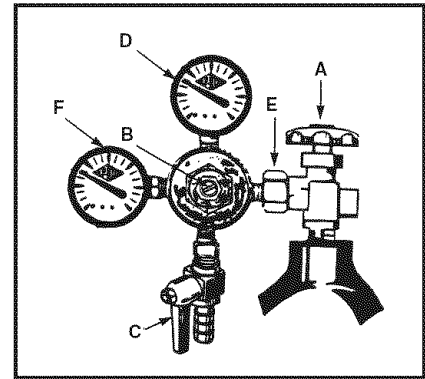

Fig. 12
19. Adjusting the CO₂ Regulator: There are two pressure gauges on the CO₂ regulator. **See Fig. 12** The upper gauge #1 monitors "LOW" (internal keg) pressure and must be adjusted to the correct operating pressure of 10~12psi/lbs. The lower gauge #2 monitors "HIGH" (CO₂ cylinder) pressure and is not adjustable. The high pressure gauge also acts as a fuel gauge to let you know when the CO₂ cylinder needs re-filling.
1. Close the main cylinder valve (A) by turning in a clockwise direction. **See Fig.12**
2. Close the secondary shut-off valve (C) by turning to "horizontal" (east/west) position on lower stem pipe. **See Fig.12**
4. Remove the regulator assembly (E) from empty cylinder. **See Fig.12**
6. Re-attach regulator assembly (E) to new/replacement cylinder. **See Fig.12**
8. Slowly open main valve (A) all the way. **See Fig. 12**
9. Readjust regulator pressure (D) (if necessary) between 10 ~ 12 psi/lbs.
10. Open the secondary shut-off valve (C) by turning to "vertical" (north/south) position on lower stem pipe.